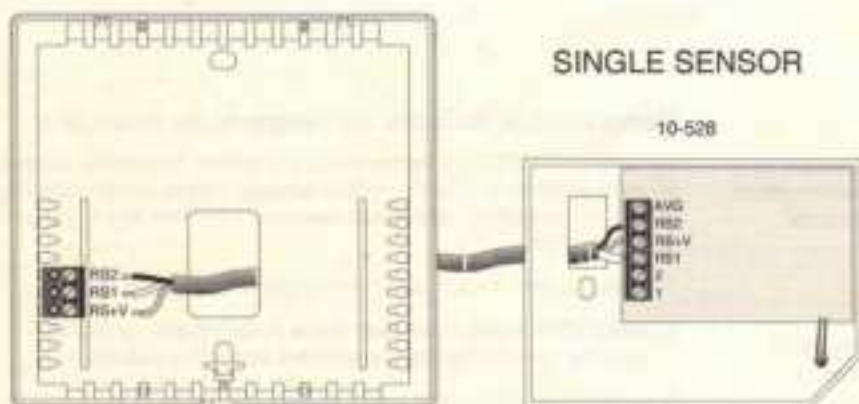

Figure 1
7. Strip 1/4 inch of insulation from the three wires at the remote sensor. Install the wires in the terminals labeled RS2, RS+V and RS1. Push any extra wire back into the wall cavity. Seal the hole in the wall around the cable to eliminate any draft that might affect the sensor. (Refer to Figure 1.)